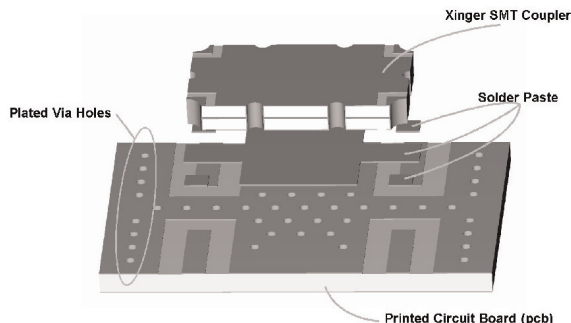

**Figure 2: Solder Paste Application**
**Solder Paste:** All conventional solder paste formulations will work well with Anaren’s Xinger paste surface mount components. Solder paste can be applied with stencils or syringe dispensers. An example of a stenciled solder paste deposit is shown in Figure 2. As shown in the figure solder paste is applied to the four RF pads and the entire ground plane underneath the body of the part.